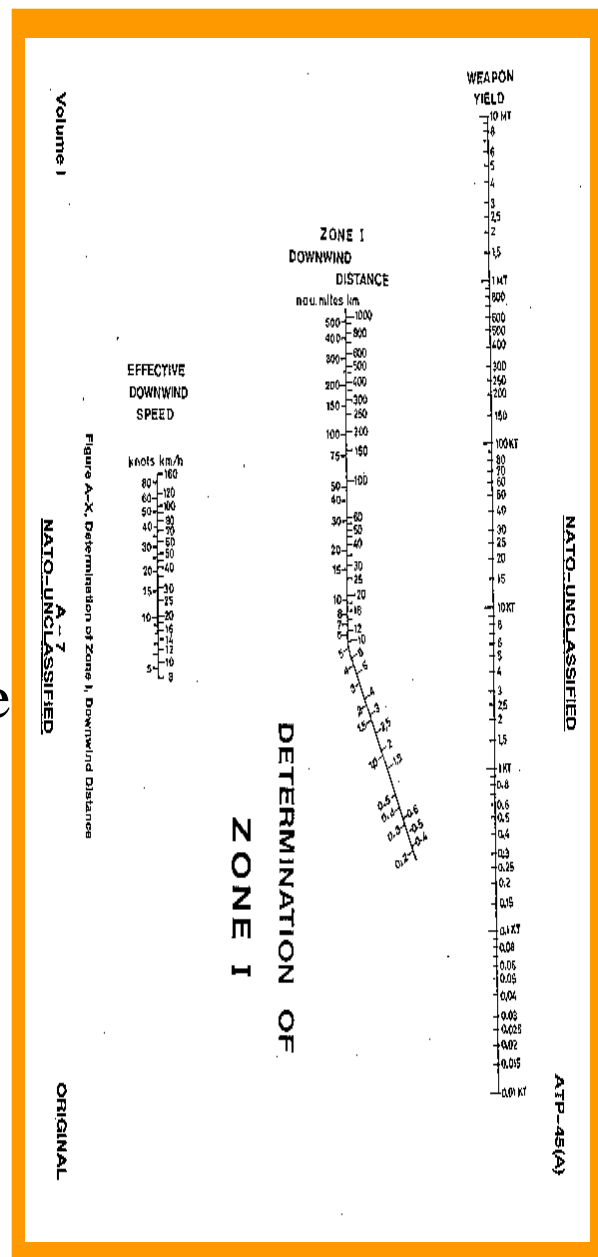

Figure 6, Zone 1 Yield Estimation
- Plot Downwind Direction for Zone 1. (See Figure 6)